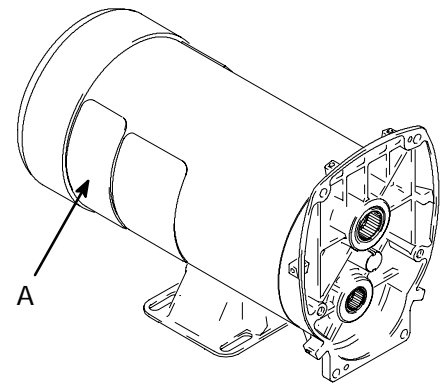
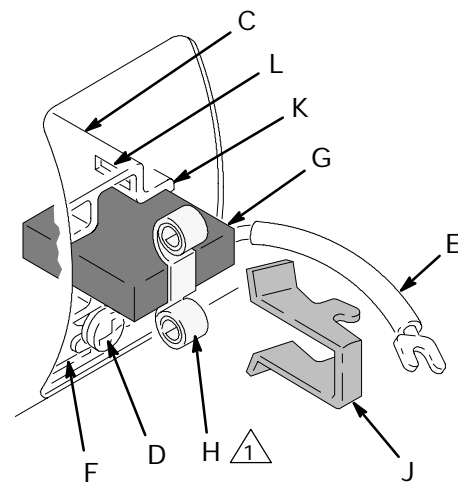

Fig. 3
Fig. 5
4. Fig. 3. Remove motor shield (1) and inspection covers (A).
3. Fig. 3. Remove motor shield (1). Remove two inspection covers (A) and gaskets on each side of motor.
1. Fig. 5. Install new brush (G) with lead into long slot (K) of brush holder (C).
2. Fig. 5. Slide brush lead (E) under washer of terminal screw (D) and tighten screw. Be sure motor lead (F) is connected at terminal screw.
3. Fig. 5. Place spring (H) on brush (G). Install spring clip (J). Push down to hook slots (L) in brush holder (C).
- a. Remove pump connecting rod pin (112); refer to **Removal**, step 5, page 29.
6. Fig. 3. Install gaskets and inspection covers (A) on each side of motor.